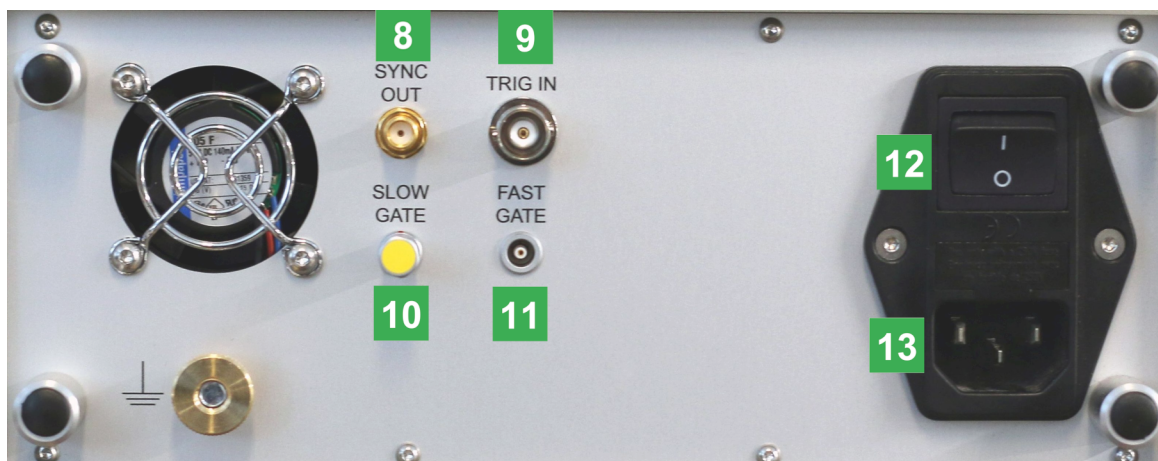

Figure 8: Sepia PDL 810 Back panel
- Main power switch (item **12** in Fig. 8) on the back panel is in the “0” (OFF) position
- Switch on the main power using the switch on the back panel of the device, see item **12** in Fig. 8. The controller will then perform some internal checks, initialize the modules and finally enable the laser drivers. This will take no longer than 45 seconds.
- Turn the key switch **3** to the horizontal position (ON).
- The synchronization output of the laser driver, see item **8** in Fig. 8, delivers a synchronization signal along with each laser pulse. This synchronization output is particularly helpful in independent operation. It can be connected to the detection electronics such as, e.g., a TCSPC module from PicoQuant. A suitable LEMO-SMA or LEMO-BNC adapter cable can be obtained from PicoQuant. The shortest possible pulse width can be achieved in this configuration and the drift between synchronization signal and optical pulse will be at its lowest.
- Another independent mode of operation is the **continuous (CW) mode**. It can be used with any CW mode compatible laser heads from PicoQuant, such as the **LDH-D-C** series.
- Each *Sepia PDL 810* can be triggered externally by a suited NIM compatible trigger signal connected to the trigger input *TRIG. IN*, see item **9** in Fig. 8.
The fast gate function affects the trigger input line **TRIG. IN**, see item **9** in Fig. 8. It is thus only effective when the module is being triggered from an external source. The FAST GATE gate input will have no effect if either the internal oscillator is active or if the laser is operated in CW mode.
To use this gating mechanism, connect a active-low TTL signal to the “FAST GATE” connector, see **11** in Fig. 8. The input has an internal pull-up resistor to “High” level.
The SLOW GATE input is isolated by an opto-coupler and a current must be fed into the input to activate the laser. When this gating function is not used, the yellow LEMO connector stub (included with the device) must be plugged into the “SLOW GATE” connector, see **10** in Fig. 8 to keep the laser always active.